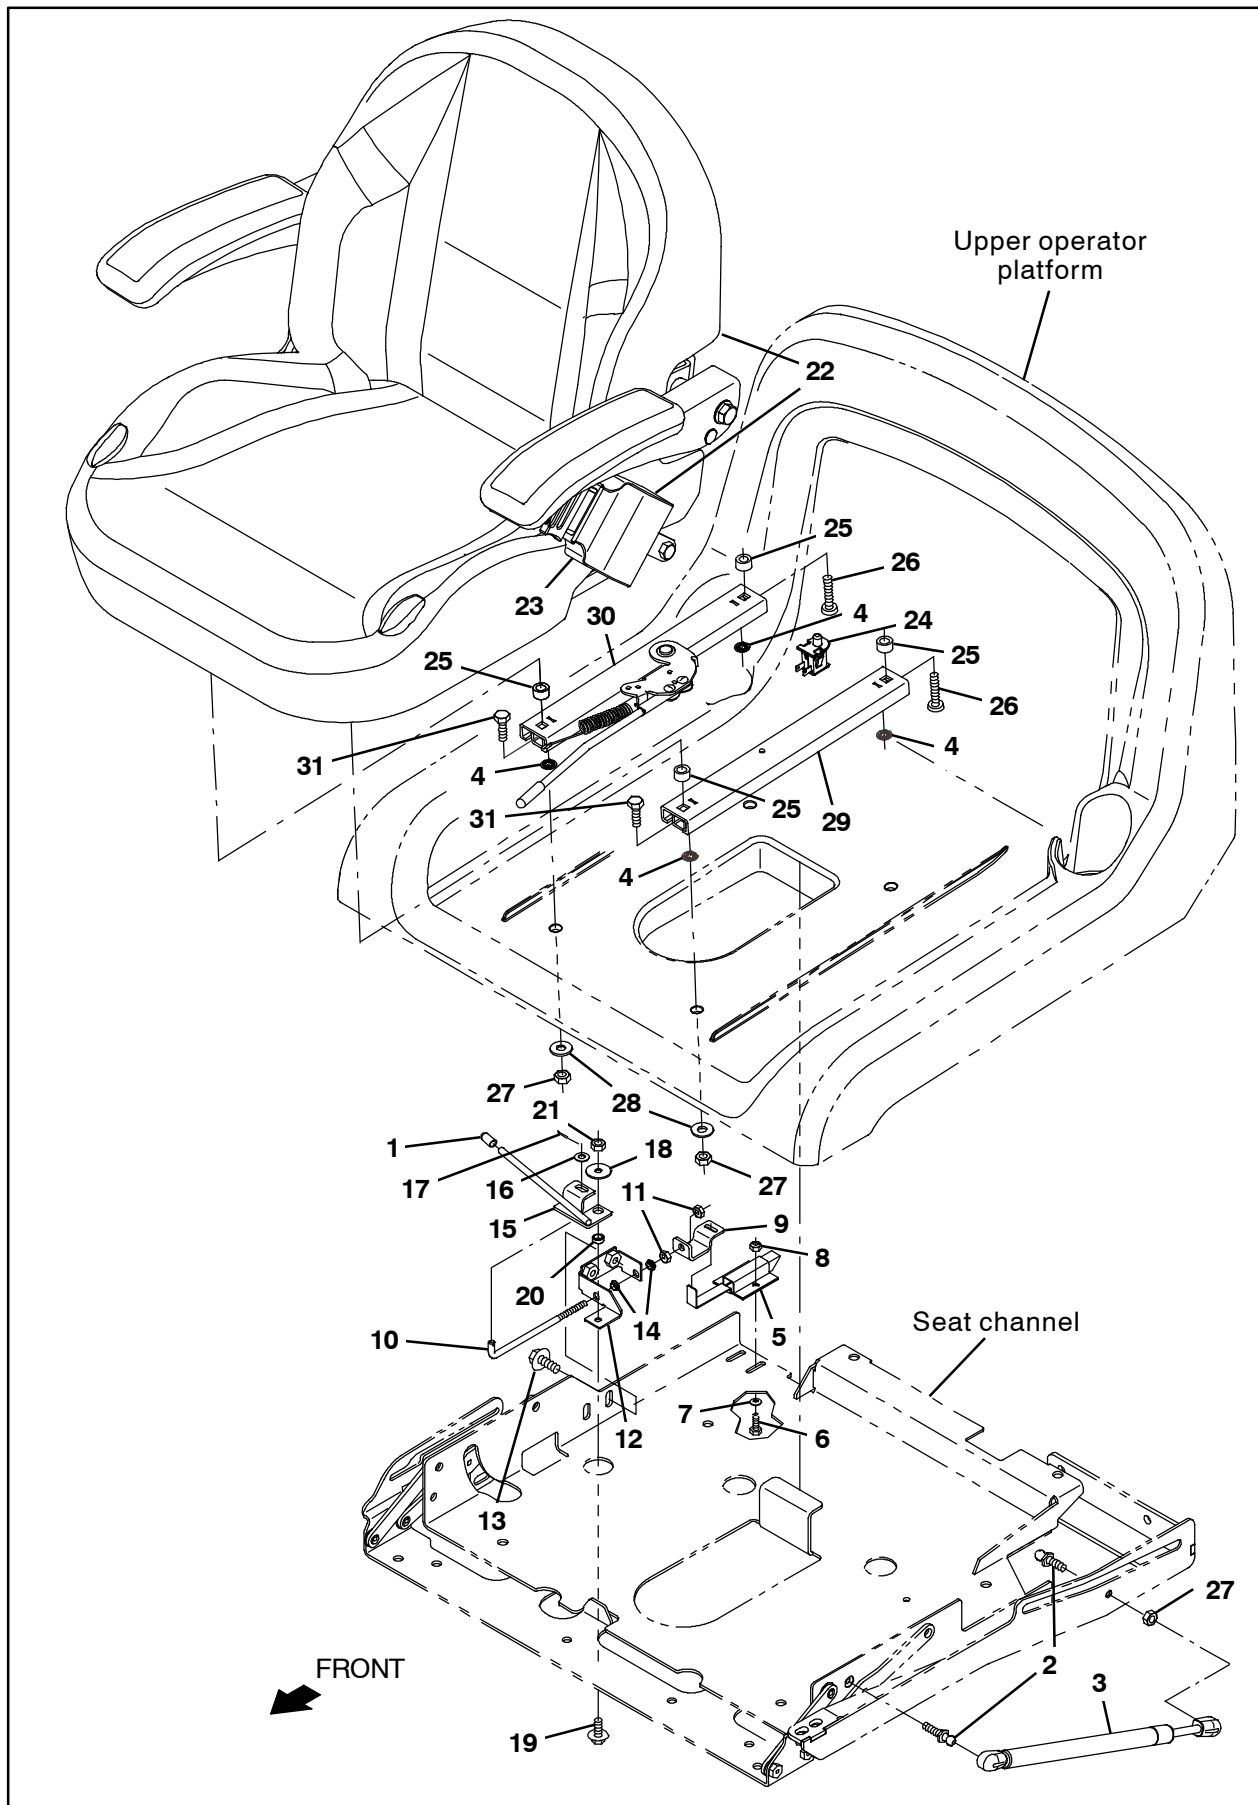

FIG. 6
16. Use four hex nuts (27), four flat washers (28), and four bolt retention nuts (4) to install the operator seat (22) onto the upper operator platform. (Fig. 6)
17. Use saved hardware to install the operator platform/operator seat (22) onto the seat channel. (Fig. 6)
18. Connect the wire harness to the seat switch (29). (Fig. 6)